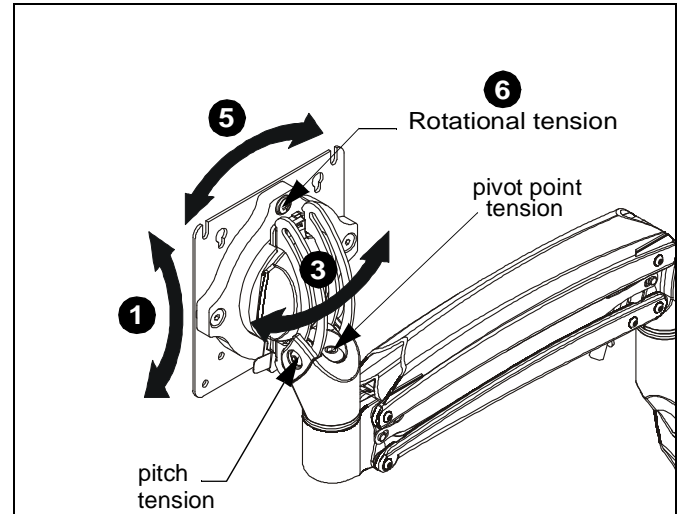

Figure 6
1. Adjust pitch to desired tilt position. (See Figure 6)
2. Adjust pitch tension screw to change the adjustment tension. (See Figure 6)
3. Adjust pivot position as desired. (See Figure 6)
4. Use 3/16" hex key (M) to adjust pivot point tension screws to change pivot adjustment tension. (See Figure 6)
5. The monitor may be adjusted 90 degrees in either direction in order to provide a portrait view of the monitor. (See Figure 6)
6. Use 3/16" hex key (Q) to adjust rotational adjustment screw to adjust rotational tension. (See Figure 6)